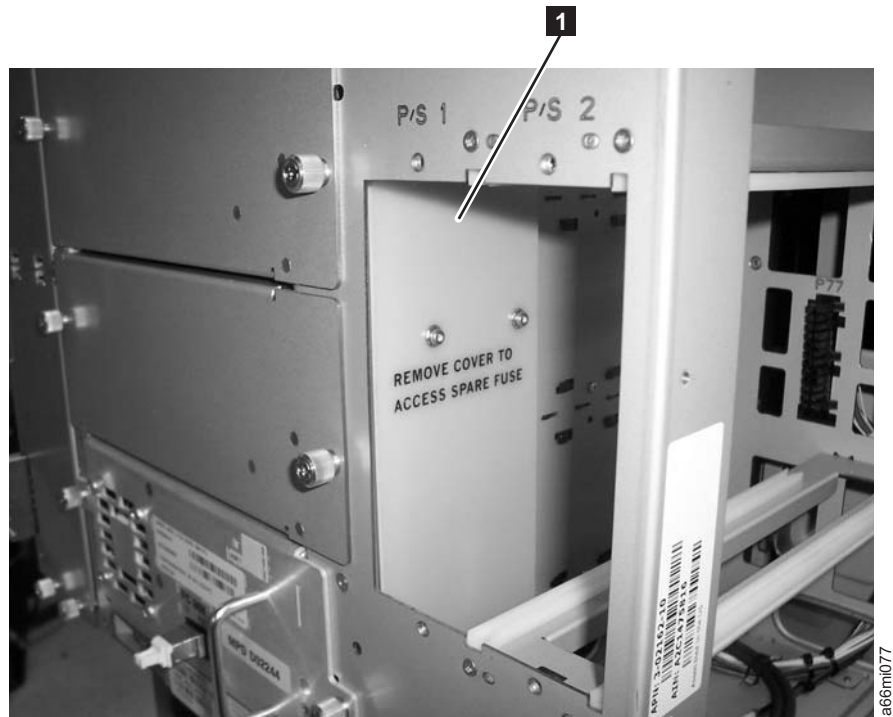

Figure 8-118. Drive power overload fuse cover plate
3. Remove the cover plate (**1** in Figure 8-118) inside the power supply slot.